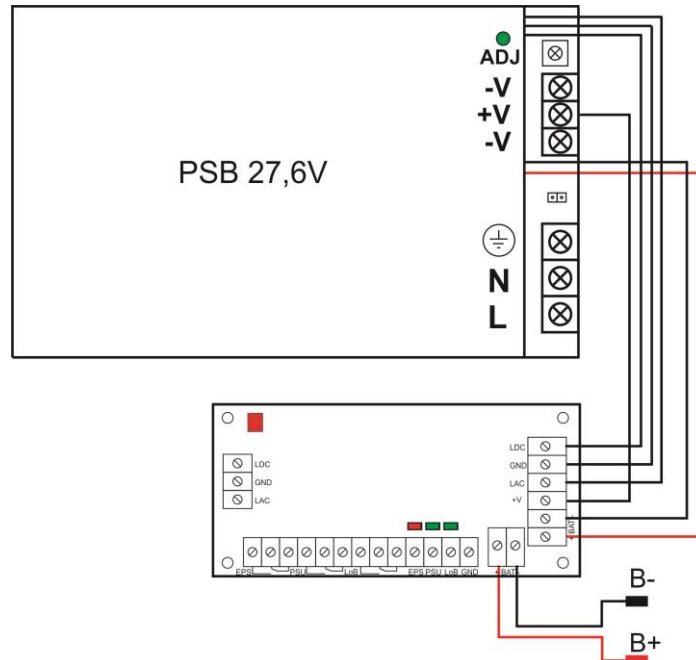

Fig.2. Diagram of connecting the module to the PSB power supply unit.
<p>Technical outputs:</p> <ul style="list-style-type: none"> - EPS; output indicating AC power failure - PSU; output indicating DC absence/PSU failure - LoB output indicating low battery voltage 	<ul style="list-style-type: none"> - relay type: 1A@ 30VDC/50VAC, time lag: approx. 10s. CAUTION! In Fig.2. the contact set in the potential-free status corresponds to a state with no AC power (AC power failure). - OC type, 50mA max., normal status: L (0V) level, failure: hi-Z level, time lag: 10s. - relay type: 1A@ 30VDC/50VAC CAUTION! In the Fig.2. the set of contacts indicates potential-free status of the relay which corresponds to the DC power absence (PSU failure). - OC type, 50mA max., normal status: L (0V) level, failure: hi-Z level - relay type: 1A@ 30VDC/50VAC CAUTION! In the Fig.2. the set of contacts indicates potential-free status of the relay which corresponds to a low battery level ($U_{BAT} < 23V$). - OC type, 50mA max., normal status: ($U_{BAT} > 23V$): L (0V), failure: ($U_{BAT} < 23V$): hi-Z level <p>Module does not feature a battery detection function. In the case of no battery or non battery connected, the output is in the normal mode.</p>
3. Cut the BAT+, BAT- leads in the PSB 27,6V PSU, separate and connect to the module, following the diagram. (fig.2).